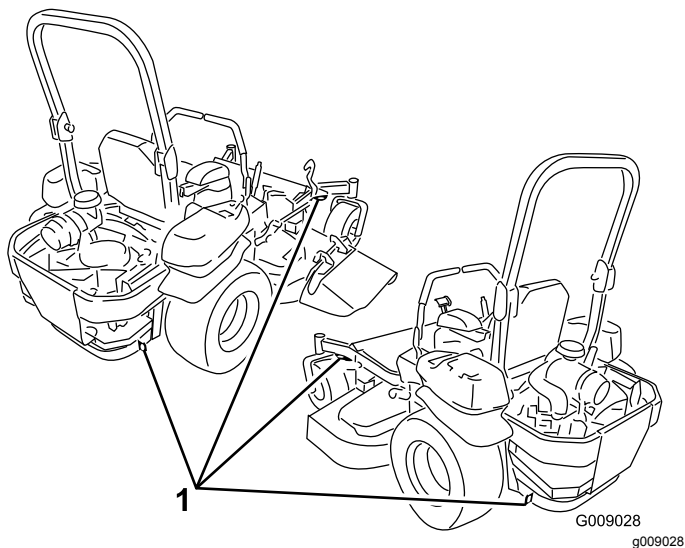

Figure 30
5. Use the metal tie-down loops on the machine to securely fasten it to the trailer or truck with straps, chains, cable, or ropes (Figure 30).